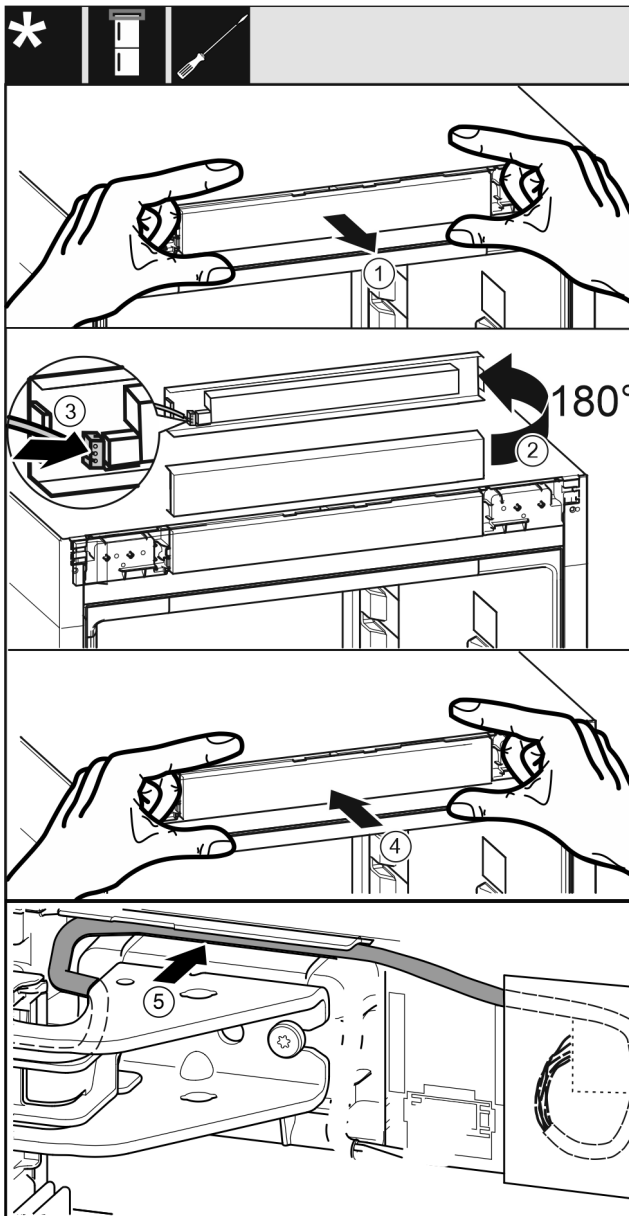

Fig. 38
- ▶ Remove the control panel trim Fig. 38 (1) carefully.
- ▶ Turn the control panel trim Fig. 38 (2) up by 180°.
- ▶ Engage the plug Fig. 38 (3) on the control panel trim.
- ▶ Re-engage the control panel trim Fig. 38 (4) on the appliance.
- ▶ Lay the cable Fig. 38 (5) carefully in the guide above the top swap bearing block.